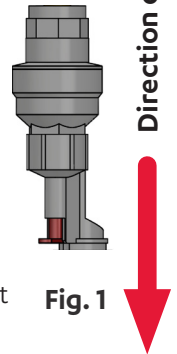

Fig. 1
**Note. This device must be installed vertically with the direction of flow downwards (inlet at the top , outlet at the bottom. See Fig 1)**